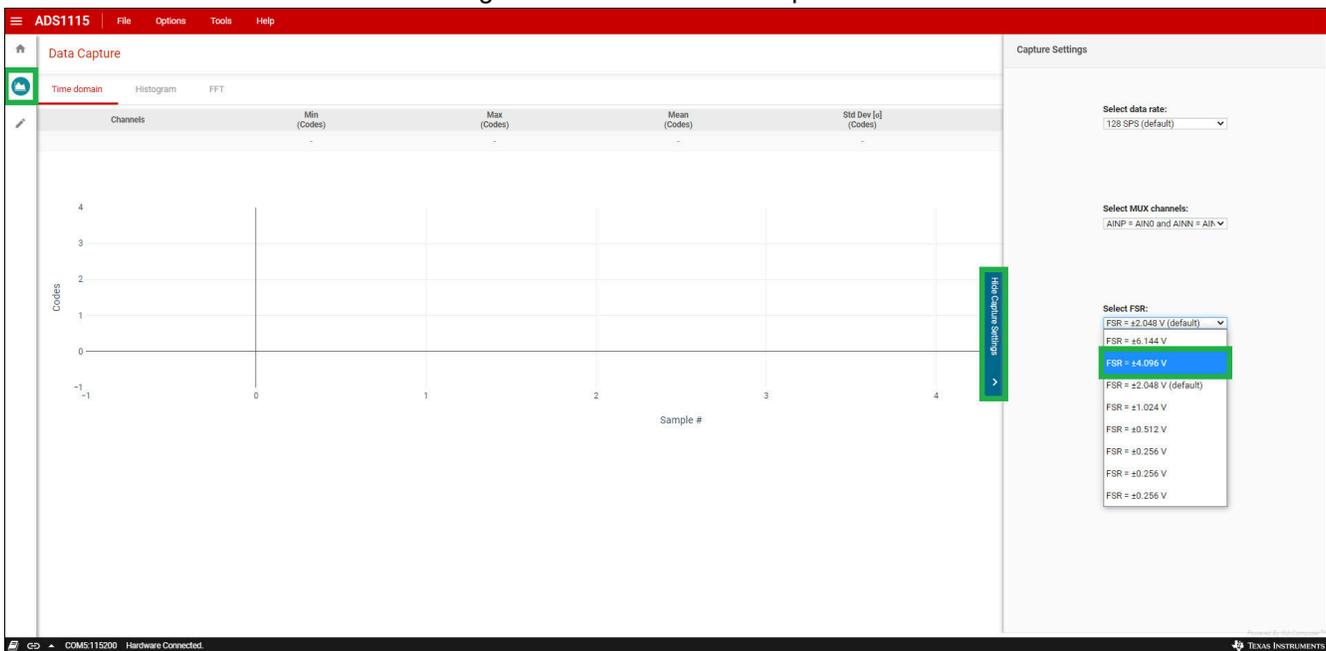

Figure 2-3. Capture Setting - Full-Scale Range (FSR)
2. Select $FSR = \pm 4.096V$ from the *Select FSR* drop-down menu as shown in Figure 2-3. The selection is needed to increase the full-scale range to measure the 3.3-V input.